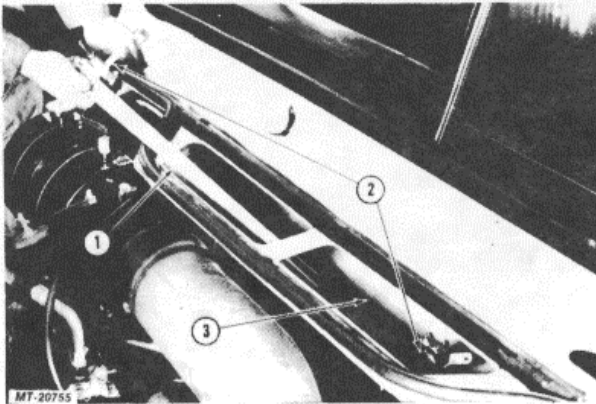

Fig. 4. Removing Windshield Wiper Linkage
6. Remove three mounting bolts from each pivot bracket and lift out complete pivot brackets and wiper linkage assembly from inside air intake chamber (Fig. 4).